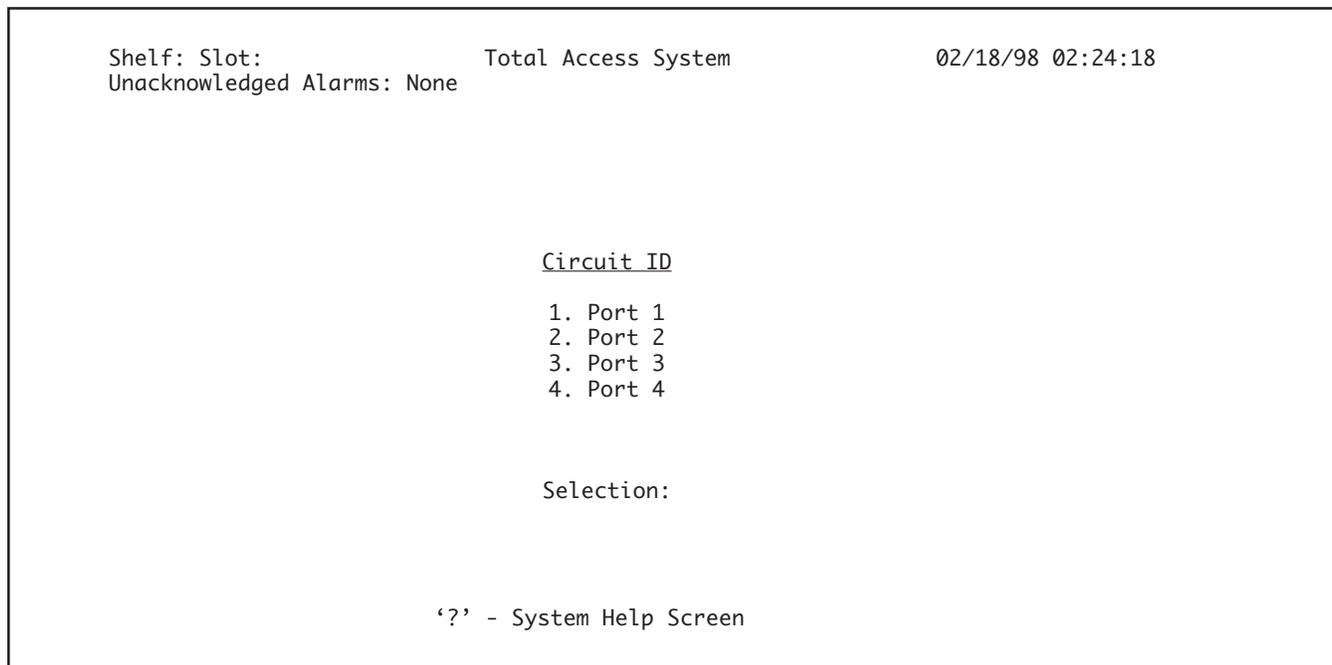

Figure 36. Circuit ID Screen
1. From the QFO-C Main Menu Screen, type “8” and press Enter to select Circuit ID. The Circuit ID Screen (**Figure 36**) will appear.